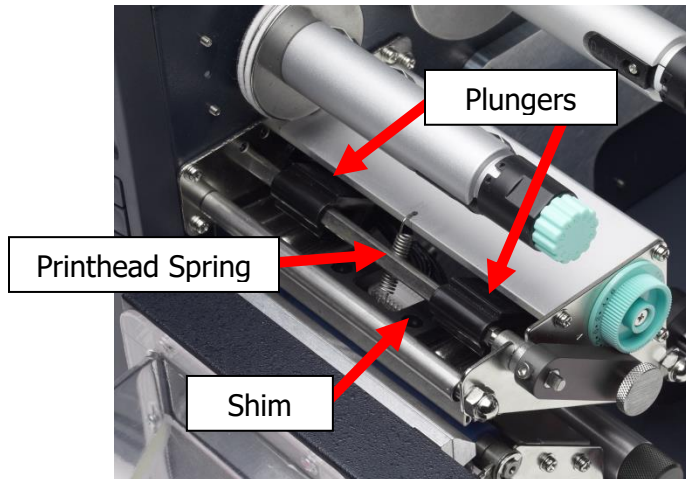

Figure 6a
- Another option to consider is to add additional pressure through the use of the **Shim** in the **Printhead**. Refer to *Figure 6a*, and relocate the **Plungers** inward toward the **Printhead Spring**, positioning them over the arms of the metal **Shim**. This will often improve print quality on larger tubing sizes (1" and larger) and may improve print quality with smaller tubing sizes under certain conditions.